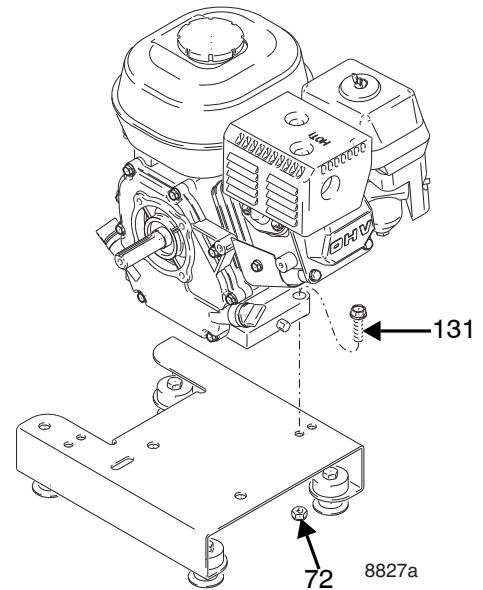

FIG. 5
3. Fig. 5. Remove two locknuts (72) and screws (131) from base of engine.
2. Fig. 5. Install two screws (131) in base of engine and secure with locknuts (72). Torque to 200 in-lb (22.6 NSm).